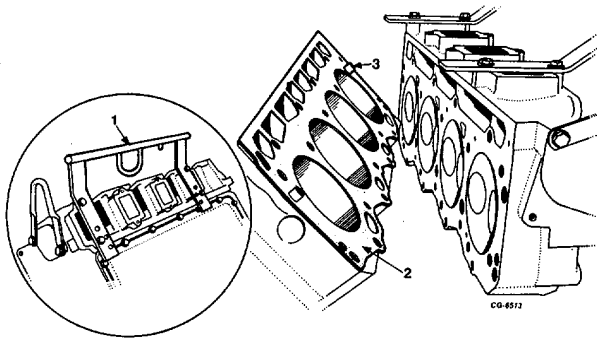

Fig. 48 Removing Cylinder Head
- 52. Attach cylinder head lifting sling SE-1896 to cylinder head. Remove head and gasket, being careful not to damage location dowel sleeves (Figure 48).